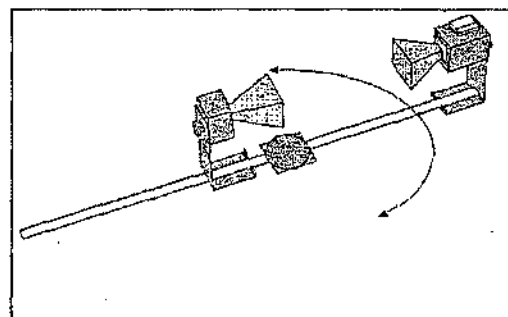

Figure 1.5 Signal Distribution
- ⑧ Position the Transmitter so the output surface of the horn is centered directly over the center of the Degree Plate of the Goniometer arm (see Figure 1.5). With the Receiver directly facing the Transmitter and as far back on the Goniometer arm as possible, adjust the Receiver controls for a meter reading of 1.0. Then rotate the rotatable arm of the Goniometer as shown in the figure. Set the angle of rotation (measured relative to the 180-degree point on the degree scale) to each of the values shown in Table 1.2, and record the meter reading at each setting.